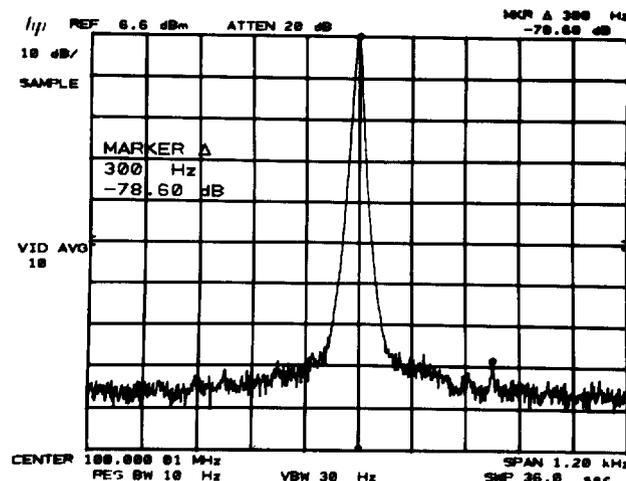

FIGURE 25. LINE-RELATED SIDEBANDS MEASUREMENT
8. Press **MARKER** **PEAK SEARCH** **Δ** and position the marker at the peaks of the line-related sidebands separated from the signal by multiples of the line frequency (e.g., 120, 180, 240, 300, 360, 420, 480, and 540 Hz for a 60 Hz line frequency). The fundamental line frequency cannot be resolved. Refer to Figure 25.